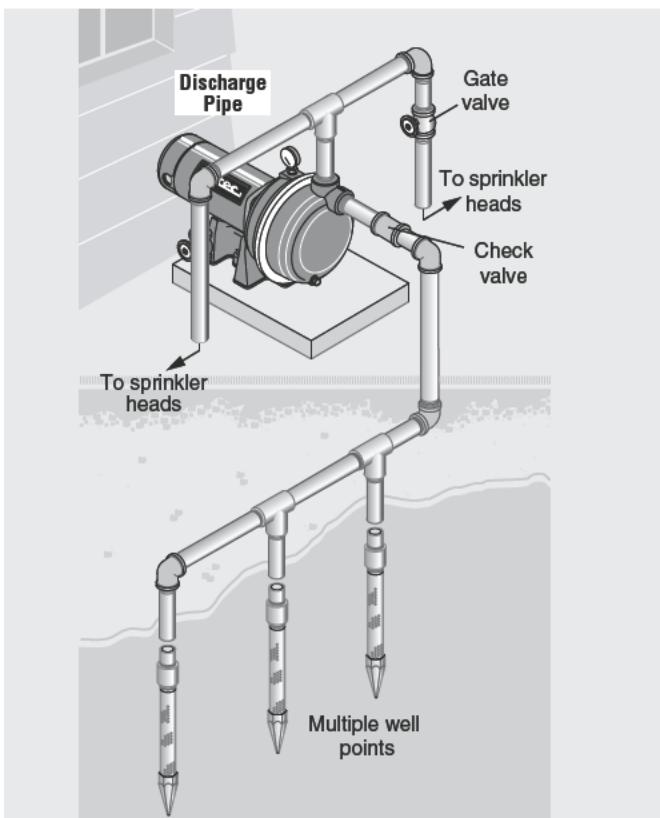

Figure 2 - Driven Point Installation, Multiple Well Points
- Step 1. Connect suction pipe to driven point (Fig. 2). Keep horizontal pipe run as short as possible. Use Teflon tape on male pipe threads. Multiple well points may be necessary to provide sufficient water to pump.